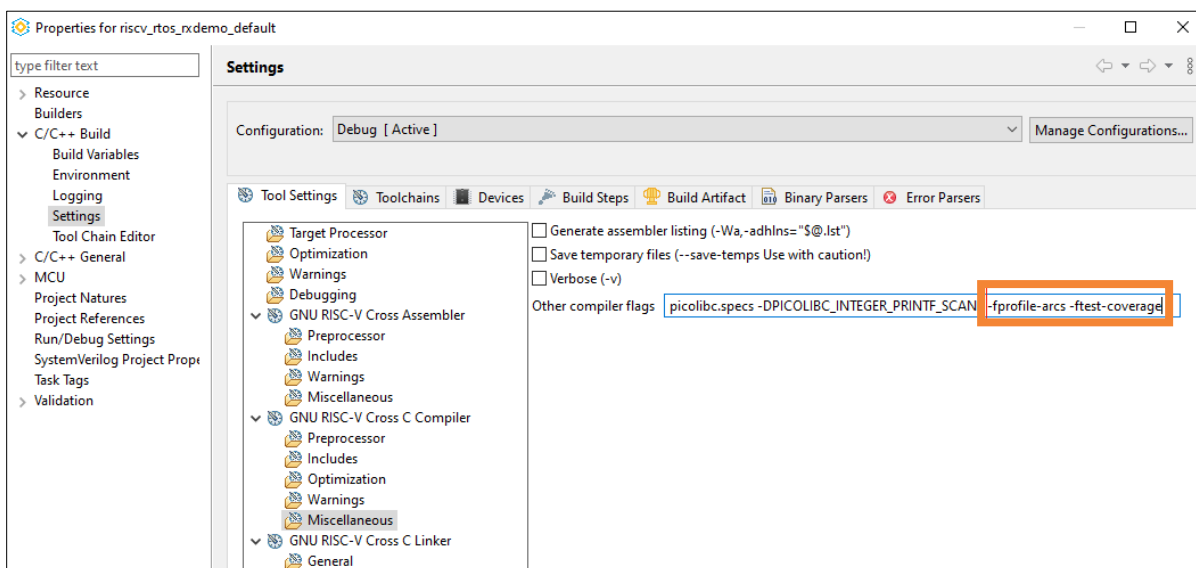

Figure 5.26. -fprofile-arcs -ftest-coverage Compiler Flag
4. Select **GNU RISC-V Cross C Compiler > Miscellaneous**. Add the compiler flag, `-fprofile-arcs -ftest-coverage` (Figure 5.26).